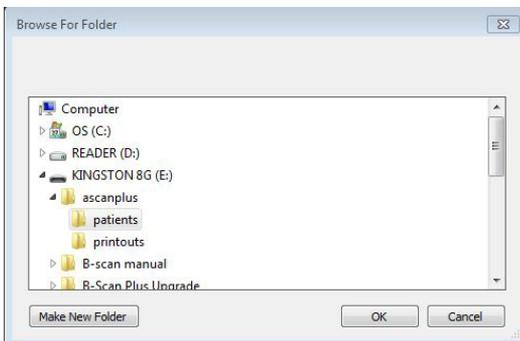

Figure 5.6 - Browse For Folder
2. The Accutome A-Scan Plus Connect will launch a Windows browser as shown in Figure 5.6 below. Using the browser locate the folder for storing exam data.